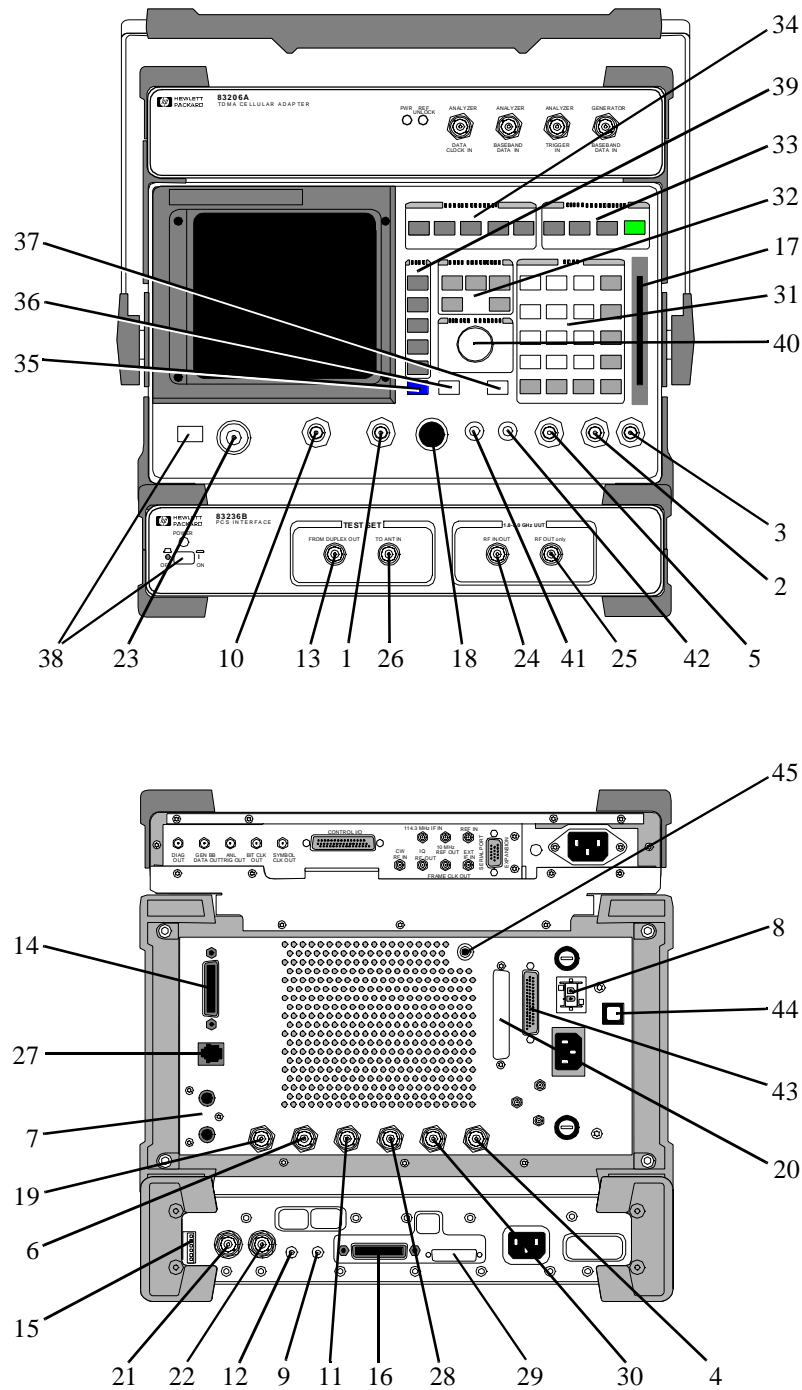

Figure 9 Test Set Connector, Keys, and Knobs
- HP 8920B, Option 800, RF Communications Test Set (see figure 9), which consists of the following:
The following paragraphs are included here for your convenience and briefly describe the connectors, keys, and knobs on the Test Set front and rear panels (see figure 9). Information on these items, in much greater detail, is included in the *HP 8920B RF Communications Test Set User's Guide*. For more detailed information on any of the items, refer to that manual.
The number shown in parentheses after each item in the following paragraphs is associated with the like-numbered pointer in figure 9.